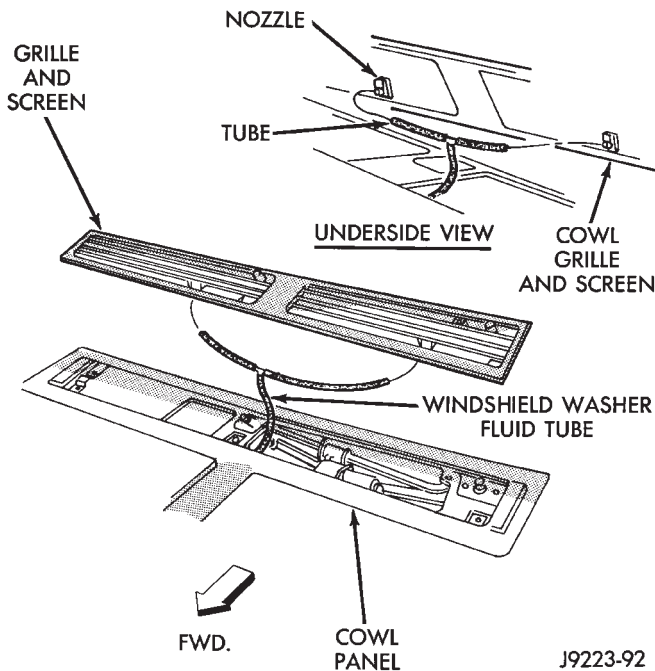

Fig. 27 Washer Fluid Tubes
(3) Remove the windshield washer tubes from the nozzles (Fig. 27).